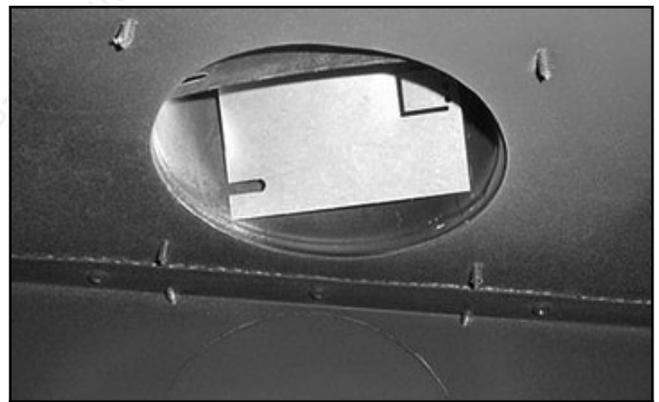

Figure 5.20 Baffle in Place
4. Release pressure on the baffle so that it is wedged against the sides of the flue collar. See Figure 5.20.